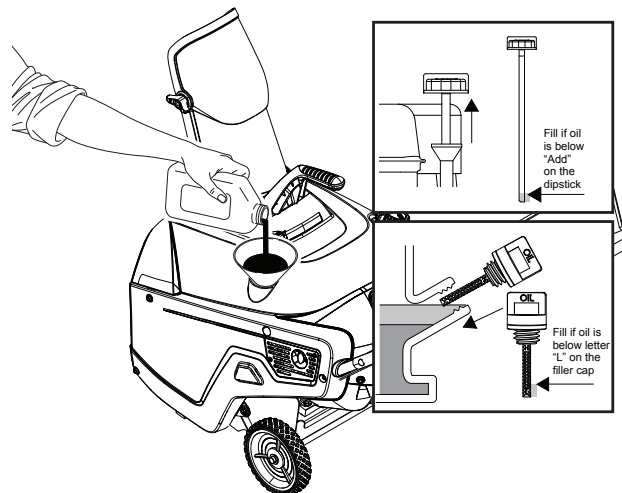

Figure 25
8. Unscrew the oil fill cap/dipstick and remove it (Figure 25).
9. With the snowthrower in the operating position, carefully pour oil into the oil fill hole until "Full" on the fill cap/dipstick line (Figure 25).